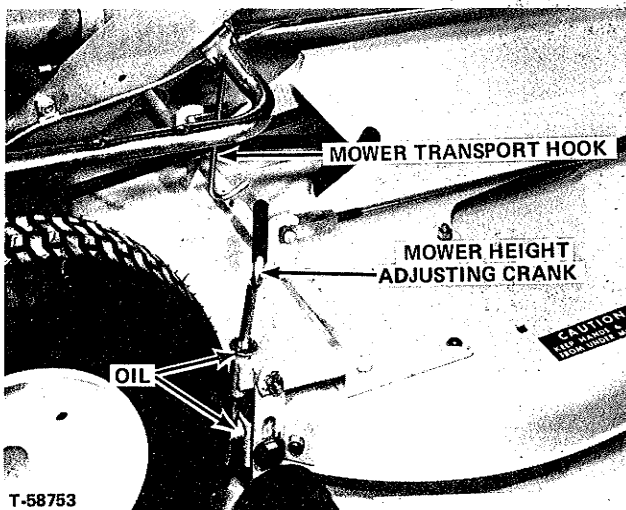

FIGURE 19
1. See Figure 19. Disengage the mower transport hook and lower rear of mower to ground.
4. See Figure 19. Lift rear of mower and engage mower transport hook.